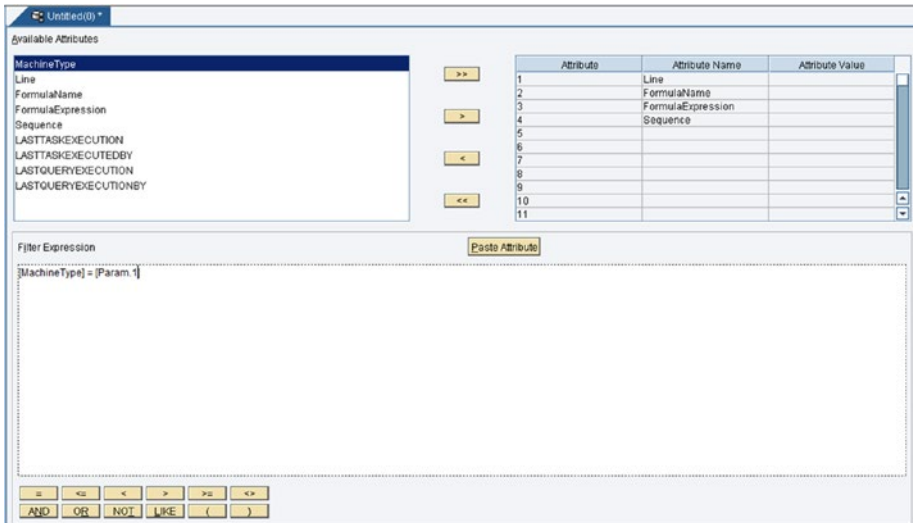

Figure 6-20. The Update Query Mode screen
- **Update Query:** If the mode selected is the UPDATE type, the MDO will be configured in an UPDATE query. This is used to update the listed attributes of the MDO. See Figure 6-20.